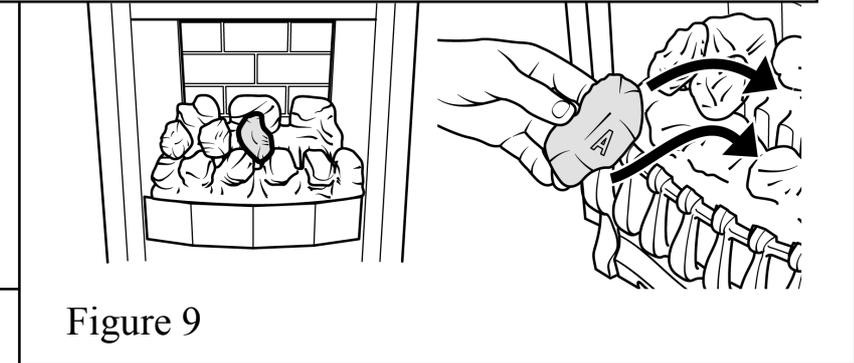

Figure 9
7. Place a type "A" coal between the front and rear base coals with the letter "A" upright. The top of the coal should rest against the centre coal of the rear base coal as shown in figure 9.